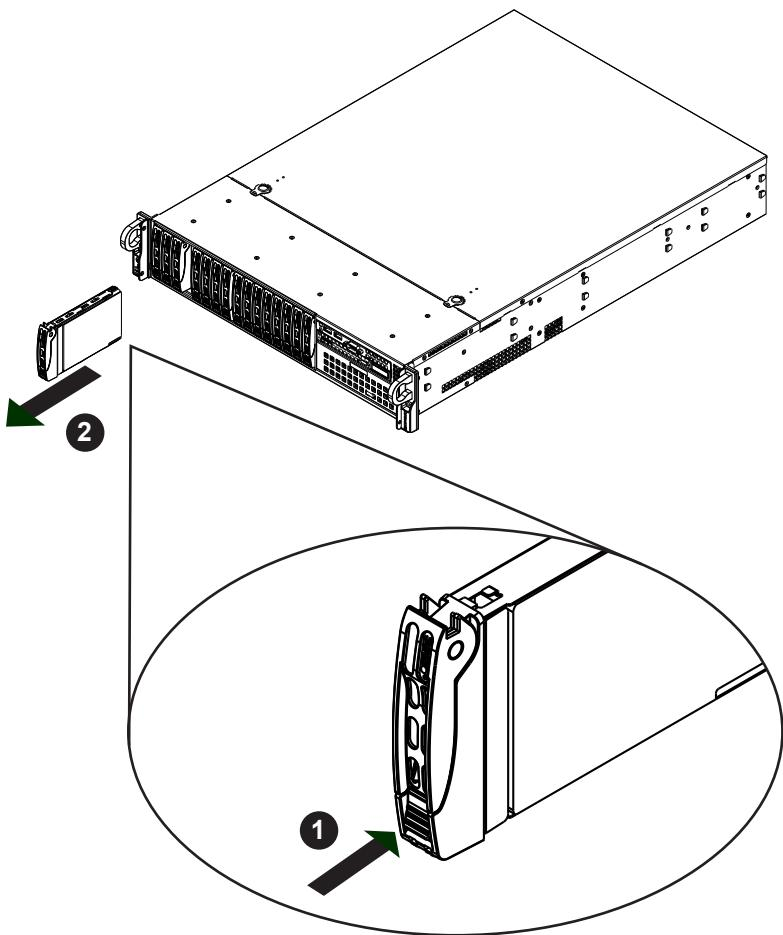

Figure 6-2. Removing a Drive Carrier
2. Use the handle to pull the drive out of the chassis (Figure 6-2).